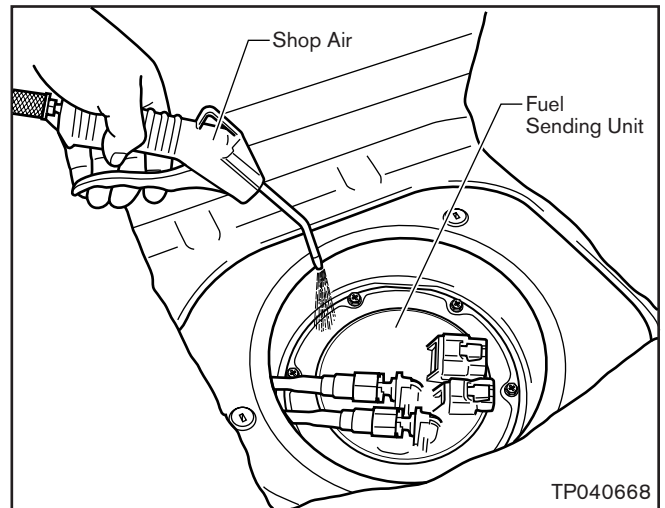

Figure 35
- a. First, use shop air to clean the area around the Fuel Sending Unit and Mounting Flange (see Figure 35).